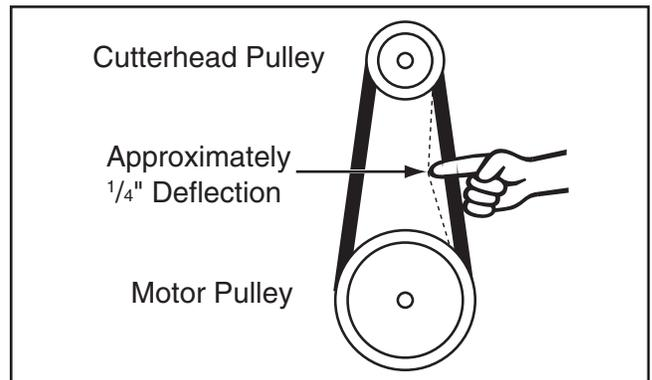

Figure 16. Correct belt deflection when properly tensioned.
- Adjust belt tension by applying downward pressure on motor until there is approximately $\frac{1}{4}$ " deflection when belt is pushed with moderate force, as shown in **Figure 16**.